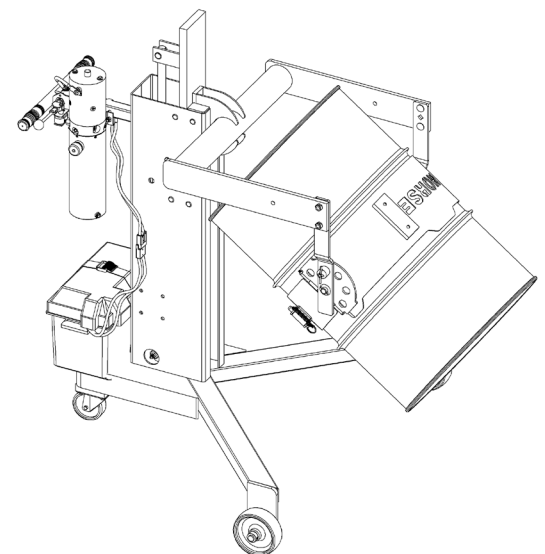

Figure 4.5
5. With tilt-locks unlocked, manually tilt the drum for pouring (Figure 4.5). The drum pouring angle may be varied or it can be locked in various positions by one of the tilt-locks.